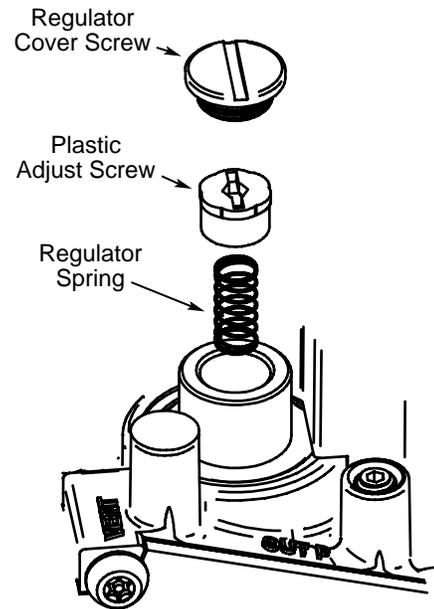

Figure 5
5. Remove regulator cover screw and turn regulator adjust screw **clockwise** (↻) to **increase pressure**, or **counterclockwise** (↺) to **decrease pressure** (see fig. 5). Always adjust regulator to provide the correct pressure according to the original equipment manufacturer's specifications listed on the appliance rating plate.